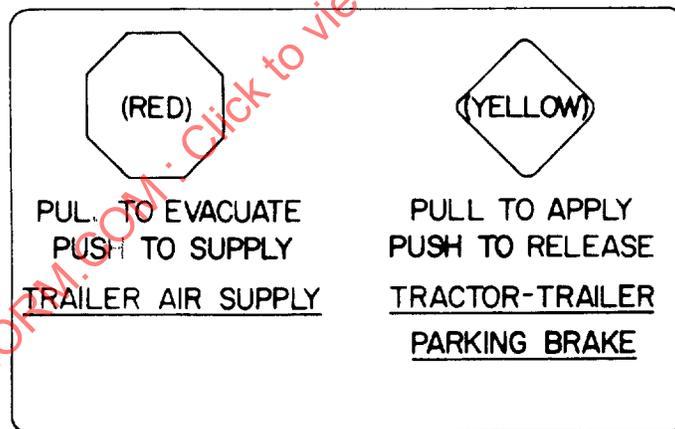
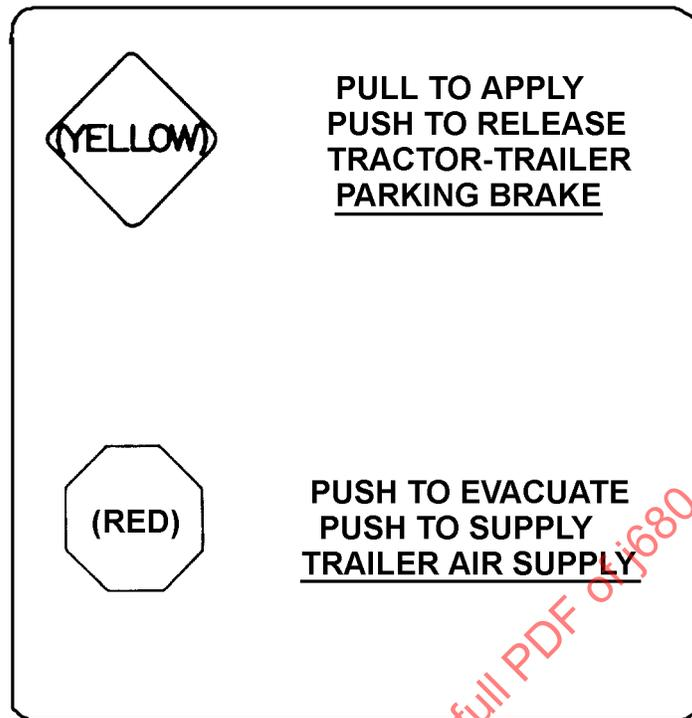

FIGURE 2—PLACEMENT OF INDIVIDUAL CONTROLS IN EMERGENCY AND PARKING BRAKE CONTROL AREA
FIGURE 3—OPTIONAL PLACEMENT OF INDIVIDUAL CONTROLS IN EMERGENCY AND PARKING BRAKE CONTROL AREA
- 3.5 Area 5**—The trailer air supply valve and the parking brake control valves are located in area 5. The placement of the various controls included in this area is shown in Figure 2. If a vertical rather than a horizontal alignment is employed, the optional arrangement of area 5 controls is shown in Figure 3.